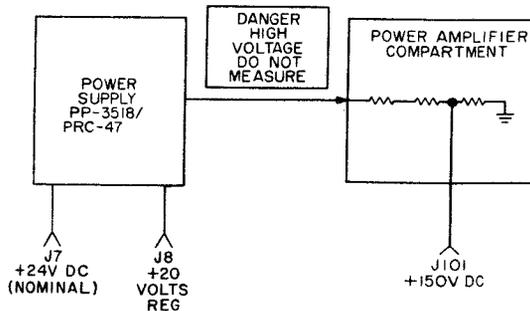

Figure 5-2. Power Supply, Simplified Block Diagram for Preliminary Trouble Shooting
b. ISOLATION TO A FUNCTIONAL SECTION. - In all probability, trouble will lie in a particular stage of a particular module. For the purpose of grouping the modules in terms of related functions, the over-all equipment is divided into three functional sections: power supply circuits, frequency generation circuits, and transmit-receive circuits. Simplified block diagrams designed for preliminary trouble shooting are shown in figures 5-2, 5-3, 5-4, and 5-5. Over-all servicing block diagrams of the three functional sections are shown in figures 5-7, 5-8, and 5-9. Some of the test points shown on the diagrams and illustrated in figures 5-10 and 5-11 are intended to check the over-all performance of functional sections. If the preliminary checks of paragraph 5-3a do not isolate the trouble to a particular functional section, then the specific evaluation of each functional section must be performed as described in paragraphs 5-4 through 5-6. Since the increasing order of complexity of functional sections is first, power supply, second, frequency
(1) POWER SUPPLY. - Refer to figure 5-2. With power on and the equipment set up for normal CW operation (section 3), measure the voltages shown on the diagram. Use a TS-505D/U vtvm. Close the CW key only long enough to obtain measurements. The test points shown are identified in figures 5-10 and 5-11. All voltages are measured with reference to chassis ground. Do not measure high-voltage output anywhere in the power supply module. High voltage is measured across a portion of a bleeder network in the power amplifier compartment at test point J101. If these measurements are